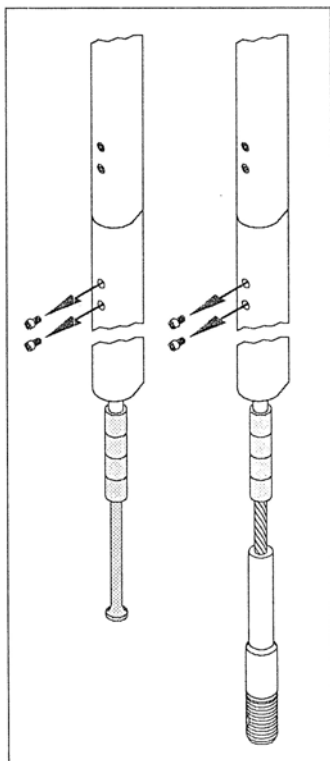
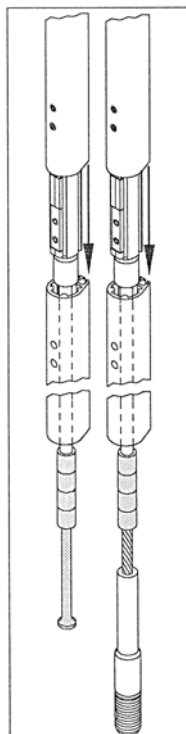

Bild 1 / fig. 1
Bild 2 / fig. 2
From the bottom end of the stay, slide on and feed the top profile along to the top end of the stay. When in place, assemble a pair of split join sleeves over the stay at the spacer tube, marked red, directly under the top section (fig. 1). Insert a stainless steel plate (1) into the recess on the top half of the join sleeve and make sure that the holes of the plate and the join sleeve are on the same side. Push the join sleeve half of its length into the upper foil section (2). (fig. 2).
To prevent the genoa halyard from twisting around the forestay, the angle between forestay and halyard must be at least 10° (fig. 1). If this requirement is not fulfilled, a halyard lead must be fitted.
Position of the halyard swivel If the boat is equipped with more than one headsail, each one should be given equal luff length so that the halyard swivel will be located at the same level when the sail is hoisted. It is imperative that the halyard shackle is always at the same position at the top, i.e. approx. 20cm from the halyard sheave. If the sails are not cut to the same length, a wire pennant must be fitted to ensure that the halyard swivel is always at the same height when the sail is hoisted. (fig 2)